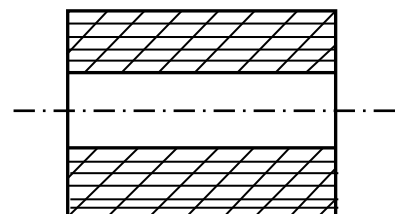

Figure 10
37. Identify the material section of figure 10